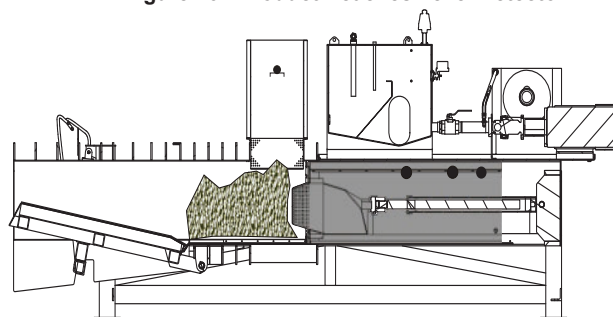

Figure 27 - Plunger Retracts, Product Falls Into Chamber
3. **PRODUCT FALLS INTO CHAMBER** Plunger retracted and the product falls into the chamber. PROX 4, PROX 3 and PROX 2 activated (see Figure 27 Pg. 21).
3. **PRODUCT FALLS INTO CHAMBER** The plunger retracts and the product falls into the chamber. The plunger is fully retracted. **PROX 4**, **PROX 3** and **PROX 2** are activated (see Figure 27).